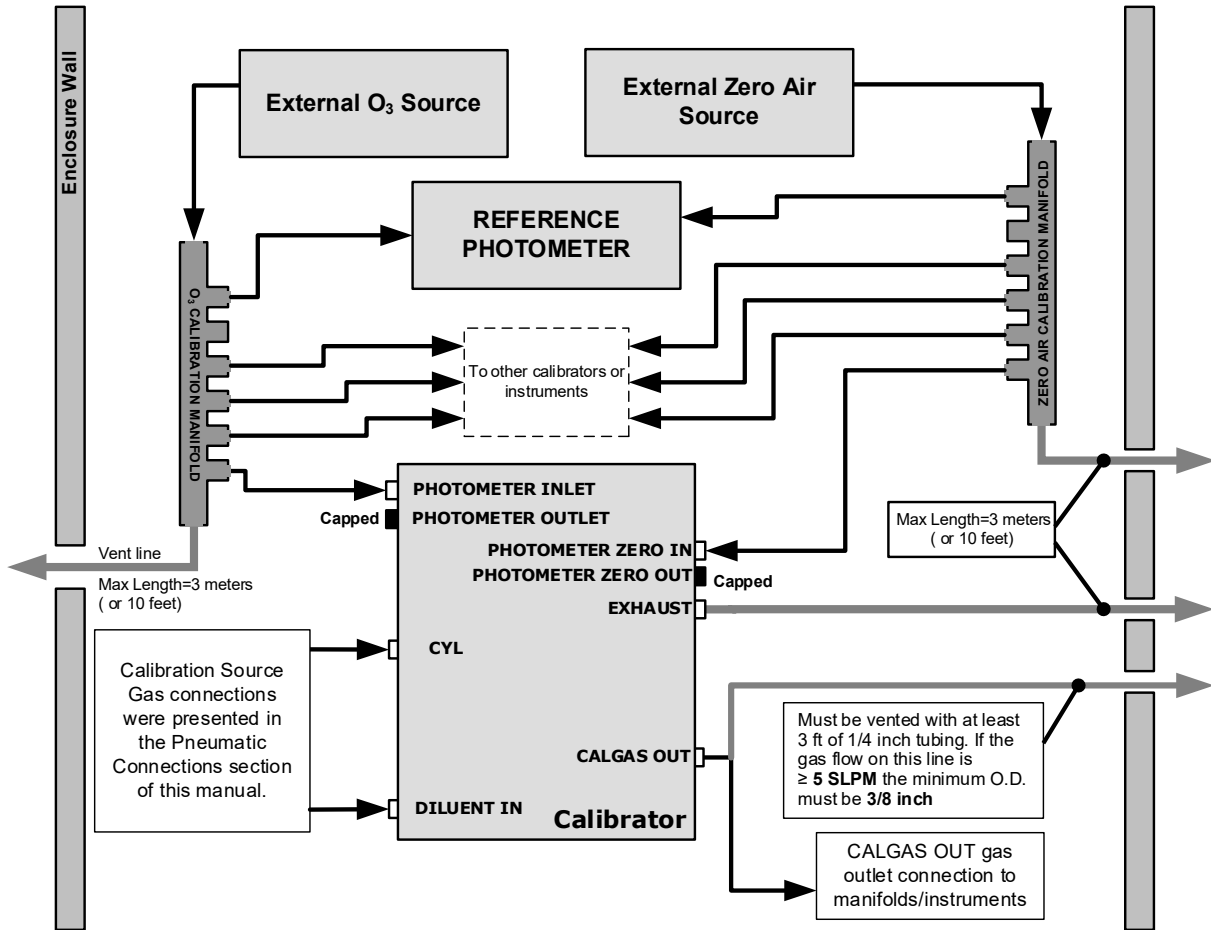

Figure 6-6. External Photometer Calibration Setup with Calibration Manifolds
- Figure 6-6 shows the external zero air and O3 sources as well as the reference photometer connected to the calibrator via calibration manifolds for both zero air and O3.